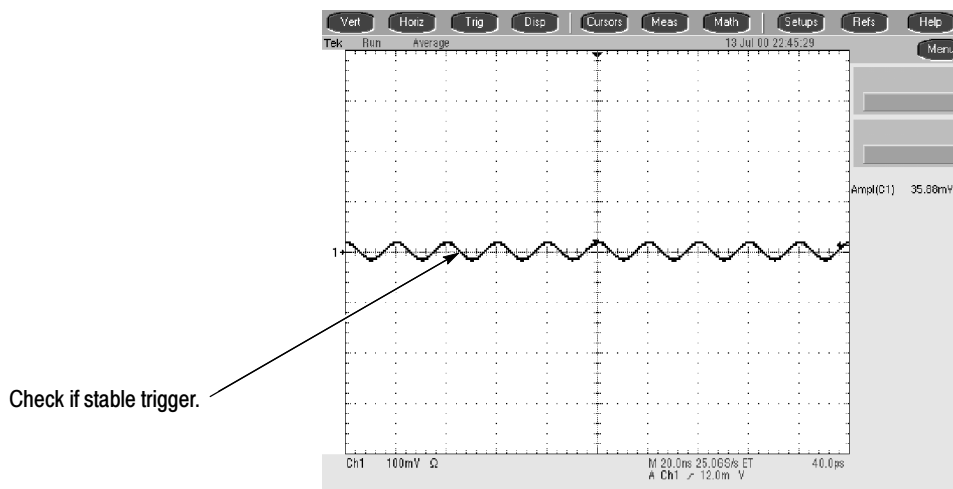

Figure 4-20: Measurement of trigger sensitivity - 50 MHz results shown
- CHECK that a stable trigger is obtained for the test waveform for both the positive and negative slopes of the waveform. Use the **TRIGGER LEVEL** knob to stabilize the Main trigger. Touch B Trig Level and use the keypad or the multipurpose knob/FINE button to stabilize the Delayed trigger. Touch one of the Slope buttons to switch between trigger slopes. See Figure 4-20 on page 4-52.